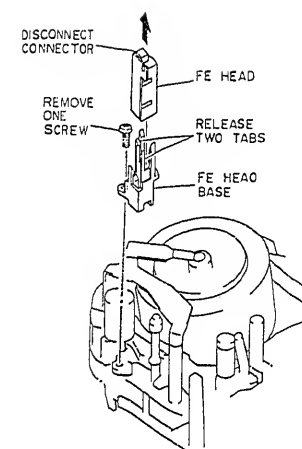

Fig. 2-58
1. Disconnect connector CN403. (See Fig. 2-58)
2. Remove one (1) screw holding the FE head base.
3. Release two (2) tabs holding the FE head and remove the FE head in the direction of the arrow.